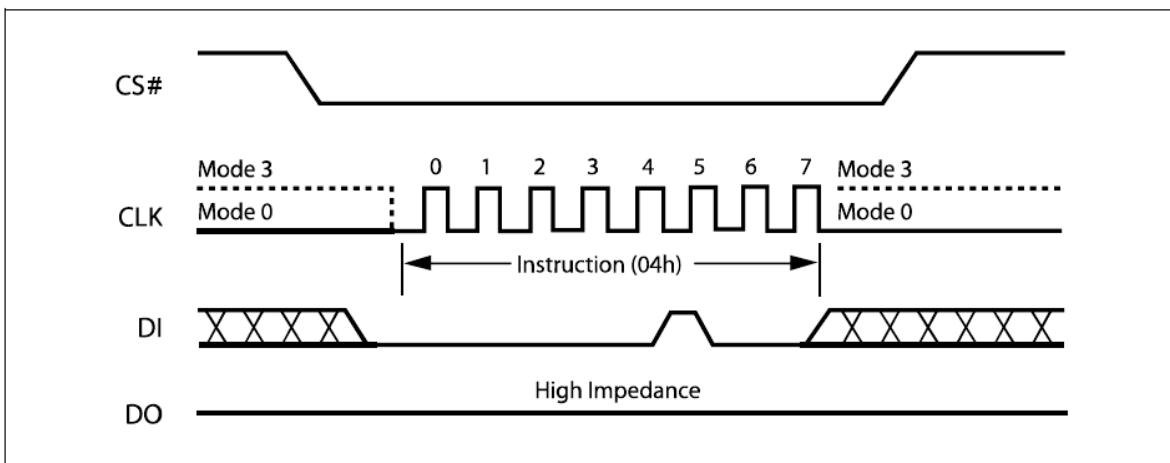

Figure 6. Write Disable Instruction Sequence Diagram
The Write Disable instruction (Figure 6) resets the Write Enable Latch (WEL) bit in the Status Register to a 0 or exit from OTP mode to normal mode. The Write Disable instruction is entered by driving Chip Select (CS#) low, shifting the instruction code “04h” into the DI pin and then driving Chip Select (CS#) high. Note that the WEL bit is automatically reset after Power-up and upon completion of the Write Status Register, Page Program, Sector Erase, Half Block Erase (HBE), Block Erase (BE) and Chip Erase instructions.